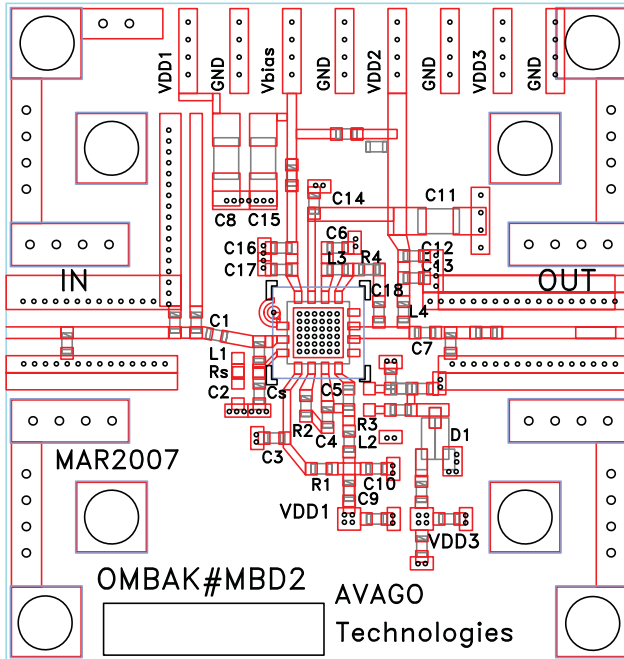
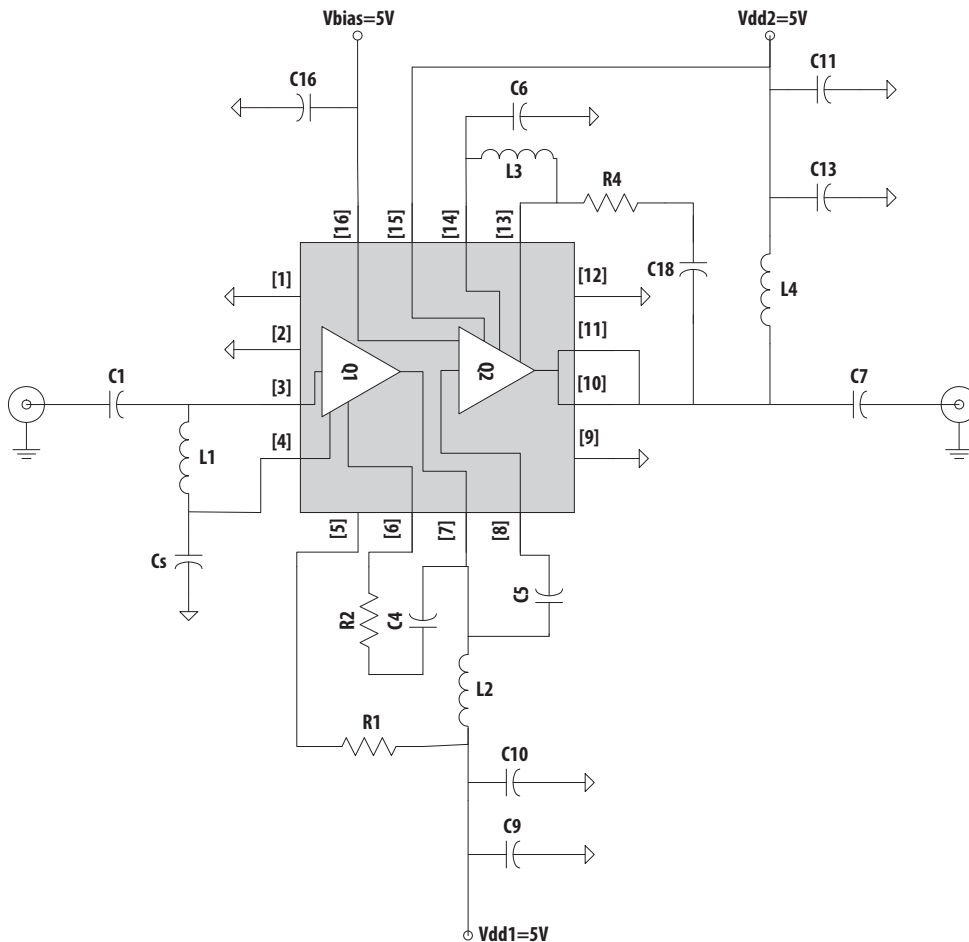
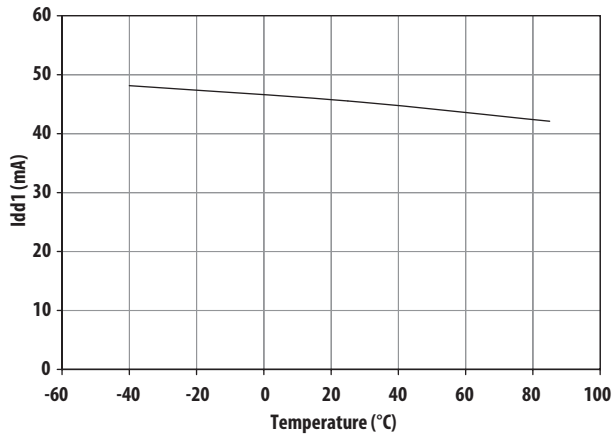
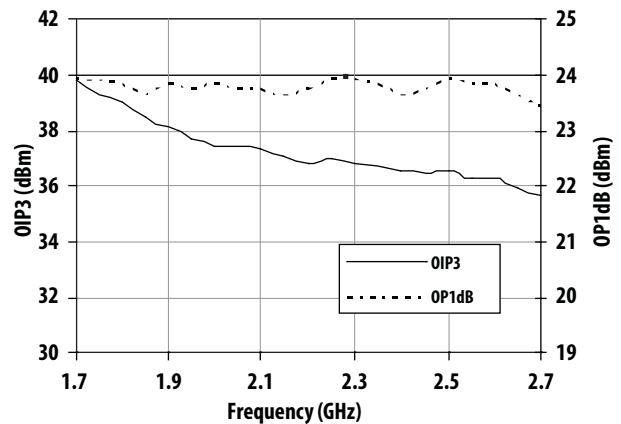

Figure 5. Demo Board Layout
Figure 6. Demo Board Schematic
Figure 7. Idd1 vs. Temperature
Figure 17. OIP3 and OP1dB vs. Frequency
Demo board (shown in Figure 5) component values used for demo board schematic in Figure 6. These component values are used when measuring Electrical Specifications and plots of Figure 7 to Figure 17.
1. Measurements obtained using demo board described in Figure 5 with component list in Table 1. Input and Output trace loss is not de-embedded from the measurement.
$T_A = 25^\circ\text{C}$ ,  $V_{dd1}=5\text{V}$ ,  $V_{dd2}=5\text{V}$ ,  $V_{bias}=5\text{V}$  unless stated otherwise. Measured on demo board in Figure 5 with components listed in Table 1.